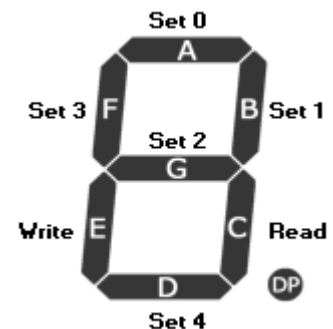

Figure 4 – Solder check
2. then show the provided input on the 7-segment display as given in Figure 4;